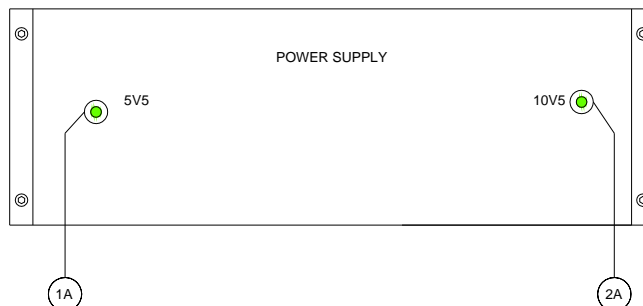

FIGURE 5 – DC/DC CONVERTER: LEDS STATUS - CORRECT POWER UP
4. Check that the green LED on the 230Vac power supply module (when equipped) is ON (ref. 60, ILL DCS OFF-AIR REPEATERS, sheet 2).
5. Check LEDs status on the 48Vdc power supply module: FIGURE 5 and Table 4 show LEDs status on the power supply module (DC/DC converter) under normal operating conditions.